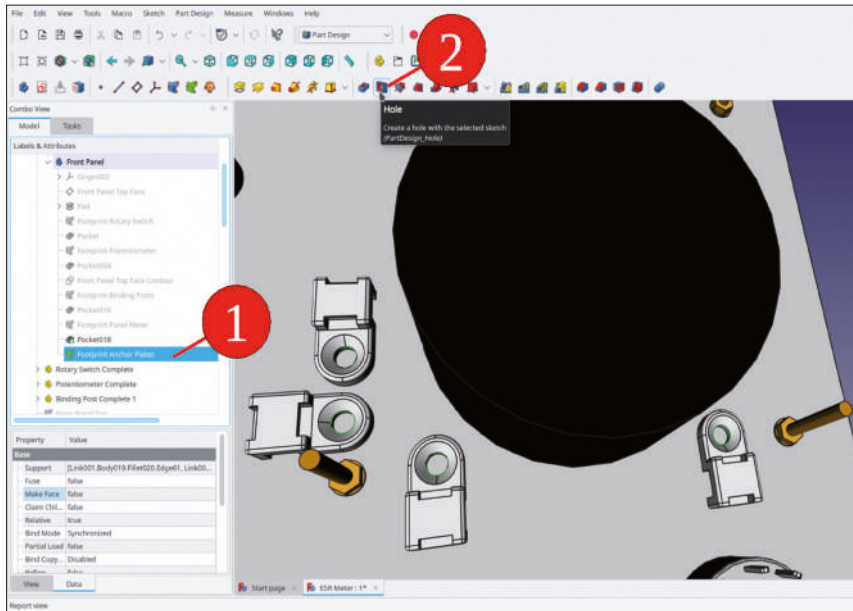

Figure 7-49
13. In the tree view, mark the new SubShapeBinder, and click the 'Hole' tool button (Figure 7-49).